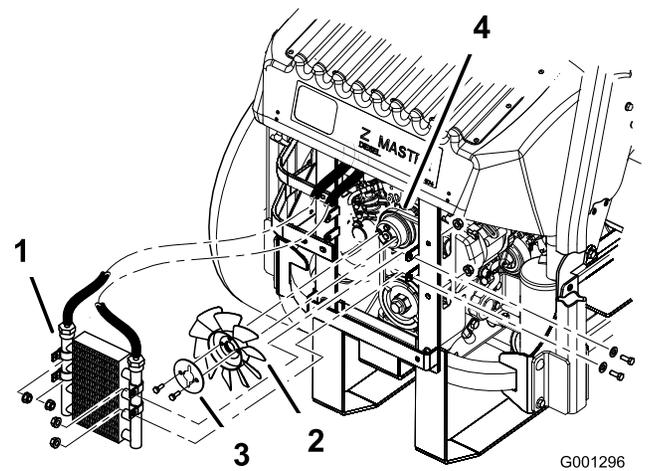

Figure 71
10. Install the fan and fan plate to the machine with the 2 bolts previously removed (Figure 71).
11. Install the oil cooler with the 4 bolts previously removed (Figure 71).
5. Remove the 4 bolts holding the oil cooler and position the oil cooler to the side (Figure 71).
6. Remove the 2 bolts holding the fan and fan plate to the machine (Figure 71).